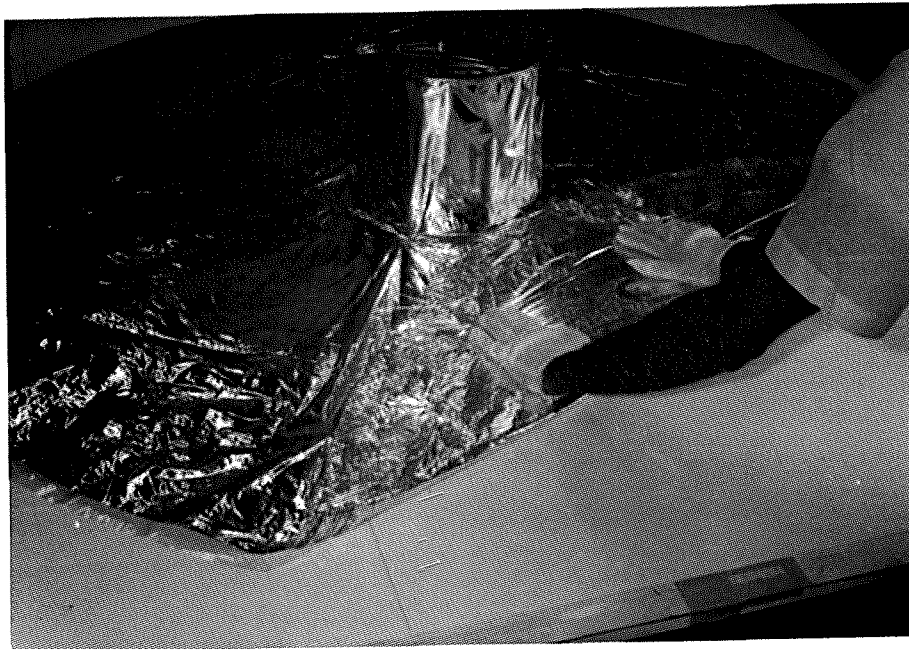

Fig. 2
**STEP 2.** At a circumferential position corresponding to one of the six skirt fastener buttons, make first skirt fold radially as shown in Figure 2 until edge is just touching upright cylinder. Edge of folded portion should be approximately tangent to two adjacent skirt buttons. Squeeze out excess air from fold as shown.